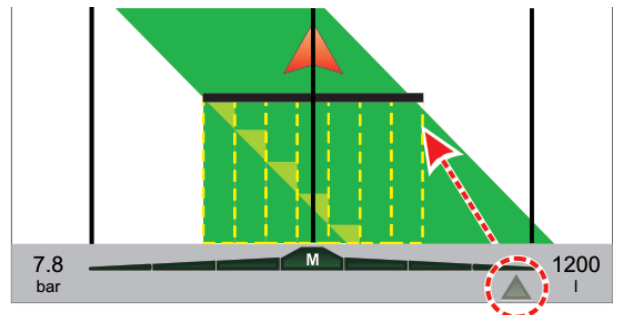

Fig. 100
- When overlapping goes back to allowed limits, Skipper LT prompts you to OPEN affected sections (Fig. 100).